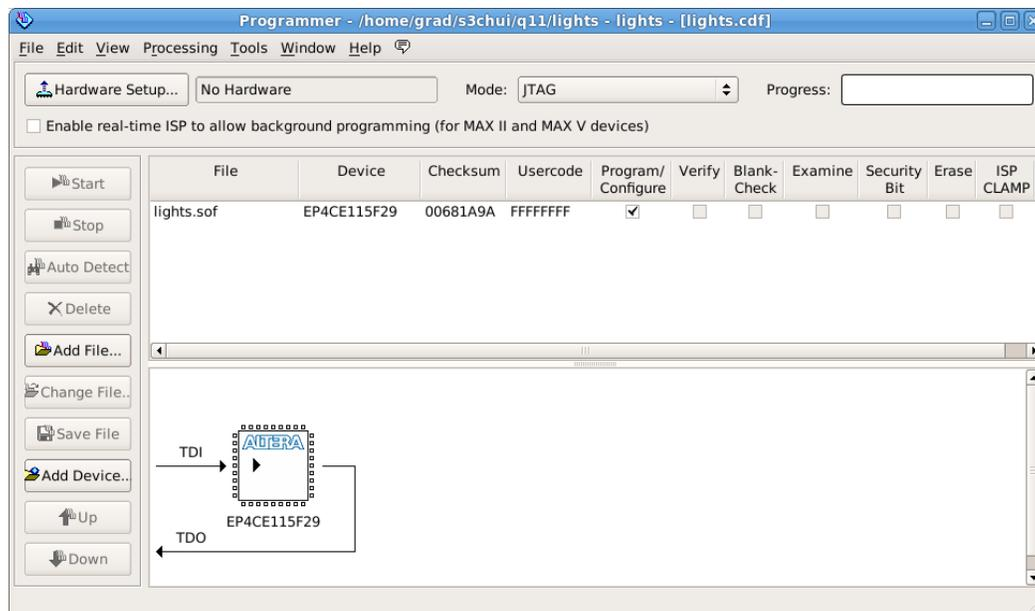

Figure 4. The Programmer window.
2. Select Tools > Programmer to reach the window in Figure 4.
6. At this point the window settings should appear as indicated in Figure 4. Press Start to configure the FPGA.